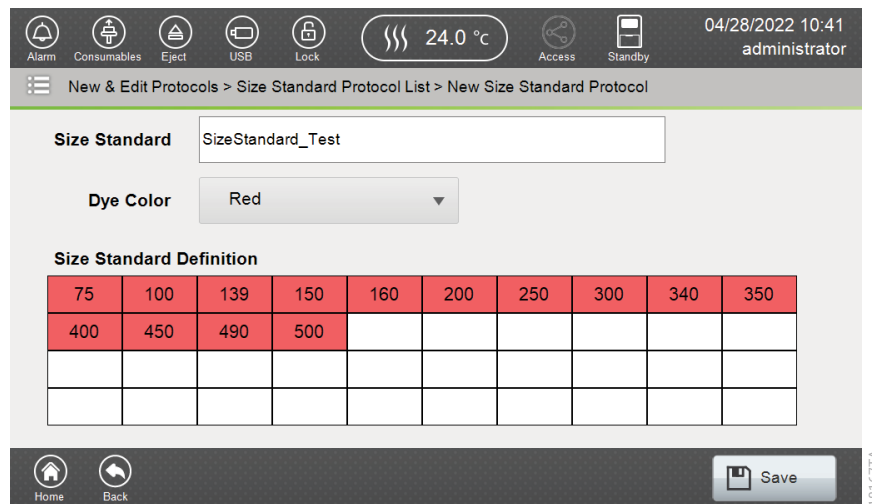

Figure 139. 'Size Standard Definition' screen.
- Confirm the sizes of the standards displayed on the 'New Size Standard Protocol' screen and select **Save** (Figure 139).